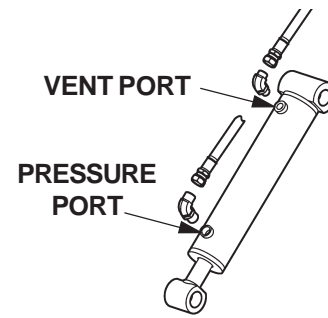

FIG. 62-1
5. Check the Hydraulic Cylinder. With the Platform on the ground, remove the Breather Plug or Vent Line from the Vent Port of the Cylinder (**FIG. 62-1**). Raise the Platform even with the bed. Allow pump motor to run two seconds more while you watch for hydraulic fluid at the Vent Port. A few drops of hydraulic fluid escaping the Vent Port is normal; however, if it streams from the Vent Port, Piston Seals are worn. Replace Seals.